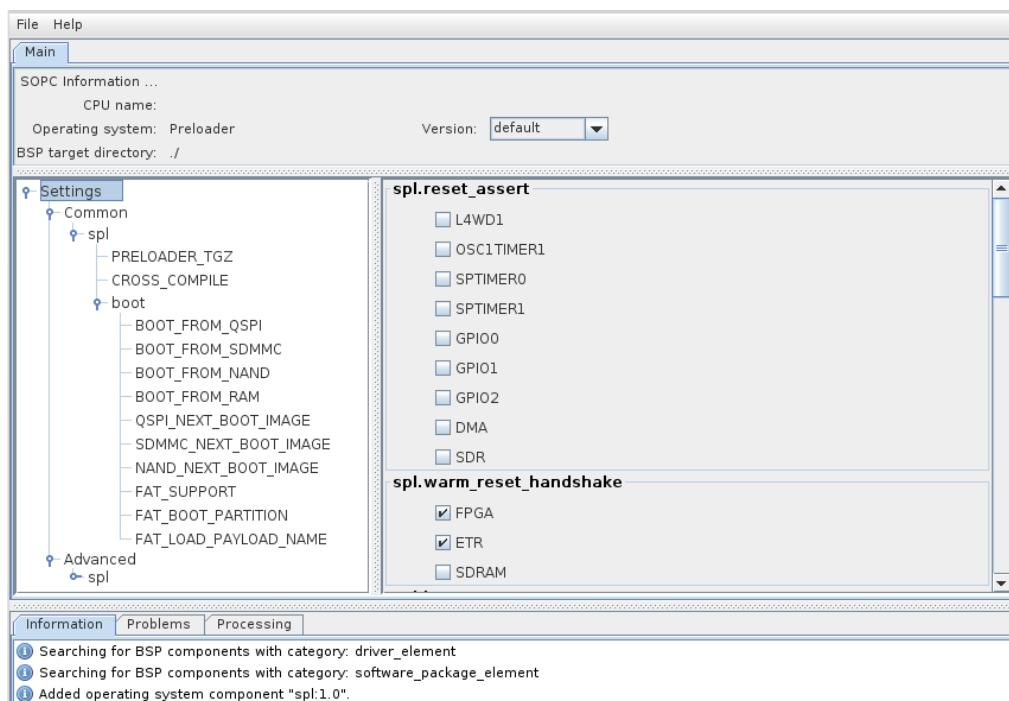

Figure 8-27. Preloader Settings Dialog
- Press the “OK” button. You should then arrive on a page with many settings, as shown on Figure 8-27. Take some time to read through them to see what the preloader has the ability to do.
- On the main settings page of Figure 8-27, we will only need to modify 3 parameters for our design.